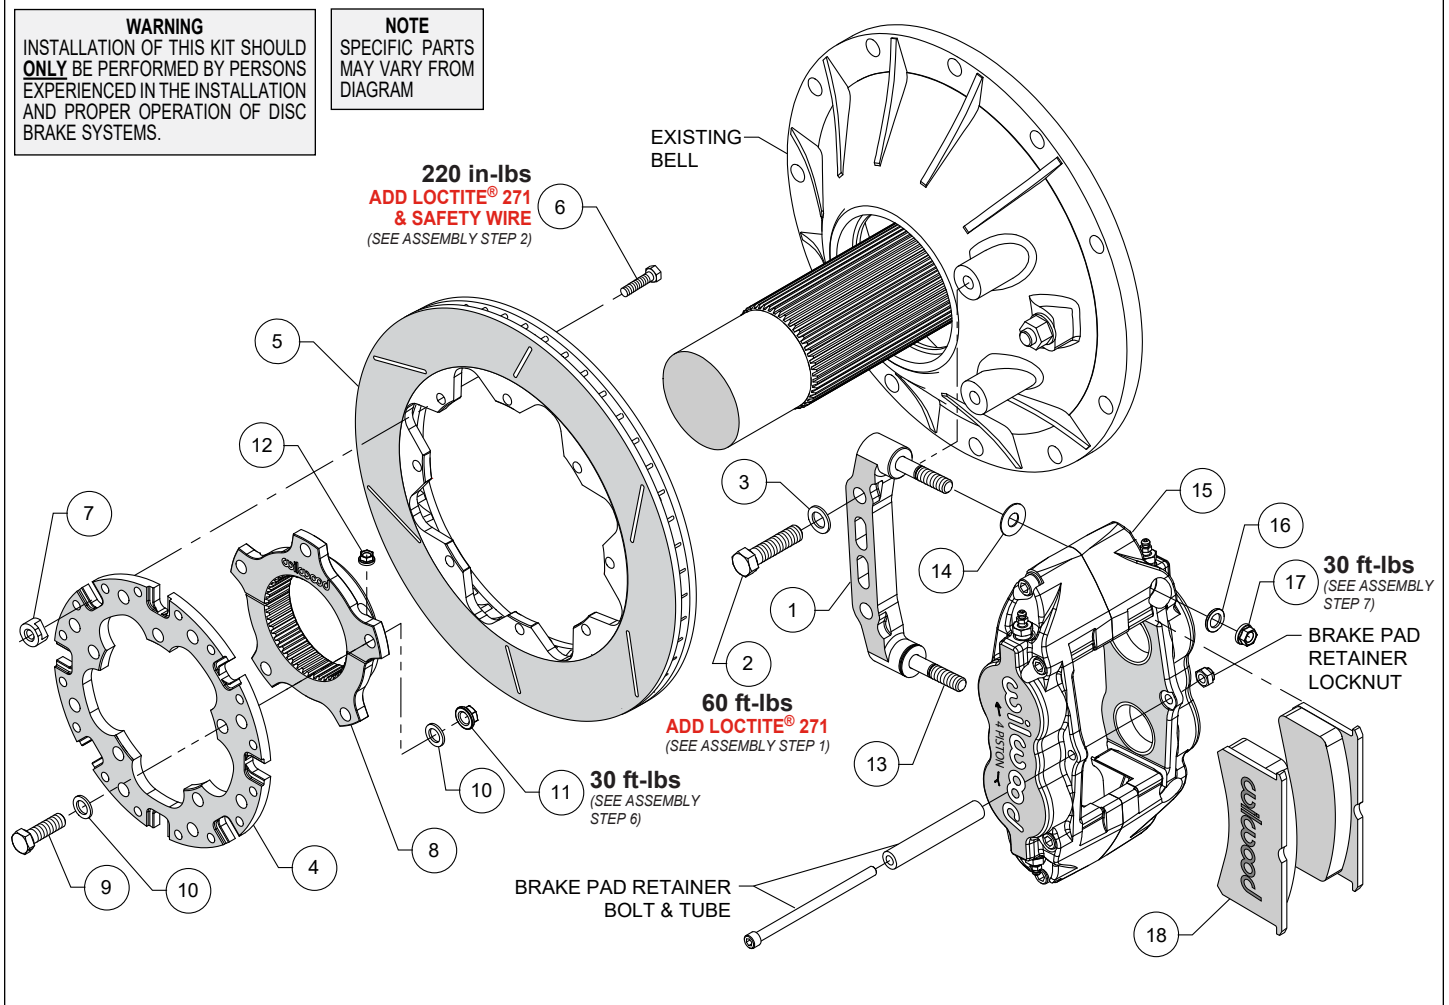

Figure 1. Typical Installation Configuration
NOTE: Numbers in parenthesis refer to the parts list and Figure 1 on the preceding pages.
STEP 1 Orient the caliper mount bracket (1) as shown in Figure 1 and install using bolts (2) and washers (3). Temporarily tighten the mounting bolts. **NOTE:** The bracket must fit squarely against the mount bosses on the bell. Inspect for interference from casting irregularities, machining ridges, burrs, etc. Remove the bracket mounting bolts one at a time, apply red *Loctite*[®] 271 to the threads, and torque to value shown in Figure 1.
STEP 2 Orient the rotor adapter (4) and the rotor (5), as shown in Figure 1, and attach using bolts (6) and t-nuts (7), Figure 1. Apply red *Loctite*[®] 271 to the bolt threads before installing. Finger tighten. After all t-nuts have been installed, torque bolts to value shown in Figure 1 using a criss-cross pattern. Please refer to
STEP 4 Orient the axle clamp assembly (8) as shown in Figure 1 and install onto the rotor adapter (4) using bolts (9), washers (10), and lock nuts (11). Tighten lock nuts part way while still allowing clamp-to-rotor movement. The lock nuts will be final tightened later, after aligning the rotor. **NOTE:** *The axle clamp should be positioned inside of the rotor as shown in Figure 1, not offset, or outside of the rotor adapter.*
STEP 6 Initially place one .035" thick shim (14) on each stud (13) as shown in Figure 1. Mount the caliper (15) onto the bracket (1) using washers (16) and lock nuts (17), Figure 1. Temporarily tighten the lock nuts (17) and view the rotor through the top opening of the caliper. The rotor should be centered in the caliper. If not, slide the rotor/adaptor assembly on the axle until the rotor is centered in the caliper. Tighten the clamp lock nuts (12) first, Figure 1, locking the clamp to the axle. Torque rotor adapter lock nuts (11) to value shown in Figure 1.
STEP 7 Remove the caliper brake pad retainer bolt, tube, and locknut from the caliper. Insert the brake pads (18) into the caliper, with the friction material facing the rotor. Check that the top of the brake pad is flush with the outside diameter of the rotor. If not, adjust by adding or subtracting shims (14) between the caliper and the bracket. After the caliper pad height is set, torque the caliper locknuts (17) to value shown in Figure 1. Secure the brake pads in place with the brake pad retainer tube, bolt, and locknut. The locknut should be snug without play in the bolt or tube. Be cautious not to over tighten.